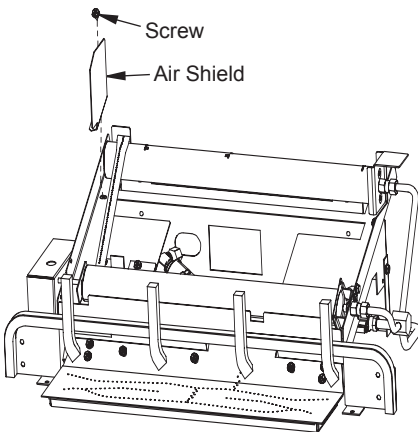

Figure 37 - Removing Air Shield
1. Before placing any logs on the chassis you will need to remove the Air Shield located on the left side near the rear burner as shown in Figure 37. The Air Shield is held in place with one screw, remove the Air Shield and place the screw back into the hole in the chassis. Place the Air Shield with you owner's manual and keep